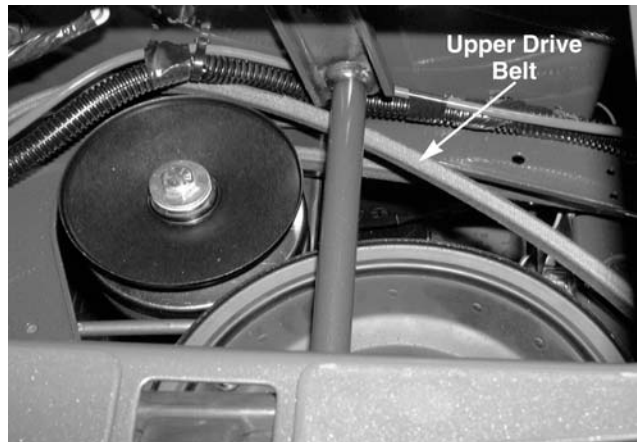

Figure 9-21
6. Remove the upper drive belt from the transmission pulley and the variable-speed pulley. See Figure 9-21.